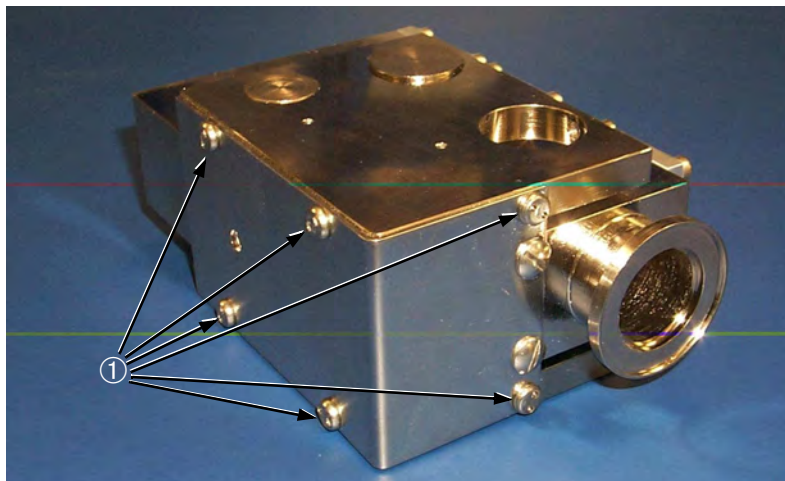

Figure 4-6 Magnet Body Bracket Screws
Do not remove the 6 magnet body bracket screws ① shown in Figure 4-6 while performing maintenance on the spectrometer tube.